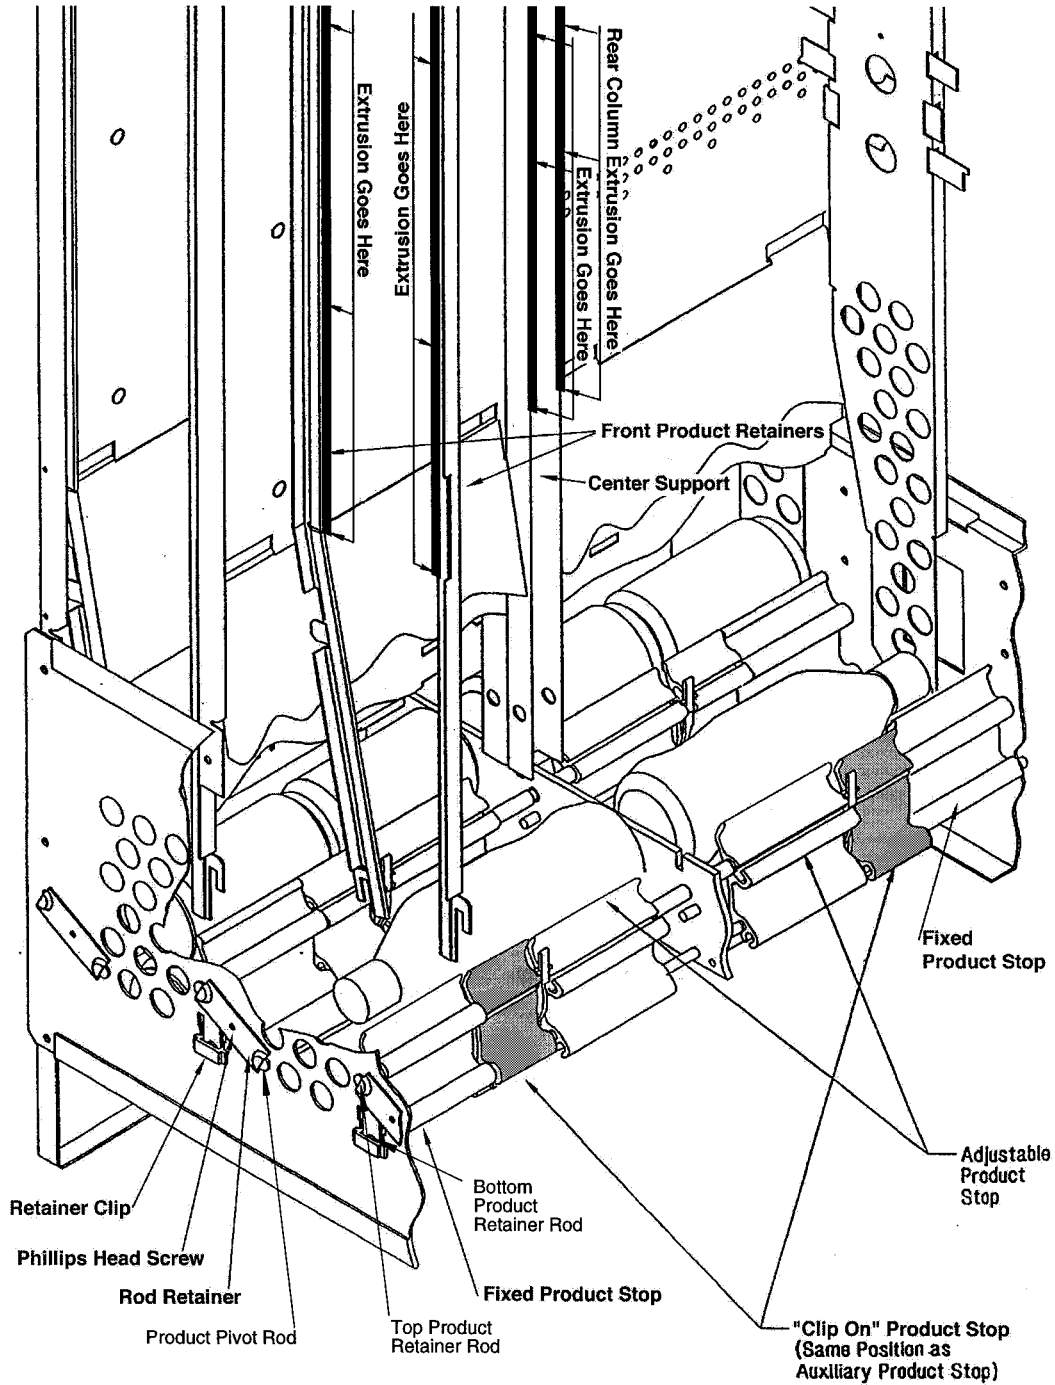

Figure 5
2. Loosen the Phillips head screw that fastens the rod retainer to the front of the base. Rotate the rod retainer to expose the head of the product pivot rod (See Figure 5).
1. Install the 2 extrusions for the rear column one on each side of the rear flanges of the "Center Support" channel. Start by locating one of the flanges, either right or left. These flanges with the extrusions attached will support the bottom of the bottle. Start by pressing the extrusion onto the top of the flange then continue pressing the remainder of the extrusion onto the flange (See Figure 5). Repeat this procedure for the other flange.
2. Install extrusions on the top portion of the "Front Product Retainers", both left and right (Shown in Figure 5). Press the one of the extrusions onto one of the two "Front Product Retainers" for your column. Make sure that the extrusion is aligned at the top edge of the "Front Product Retainer"
2. Lift the black rod retainer clip and remove the bottom product retainer rod (See Figure 5). Position the "Small Package Clip On Product Stop" between the "Fixed" and "Adjustable" product stops as shown in Figure 5, ensure that the top of the "Small Package Clip On Product Stop" (Figure 3) fits securely over the white spacer located on the "top product retainer rod".
2. Lift the black rod retainer clip and remove the "bottom product retainer rod" (See Figure 5).
3. Loosen the Phillips head screw that fastens the rod retainer to the front of the base. Rotate the rod retainer to expose the head of the "top product retainer rod" (See Figure 5).
6. Install the "Small Package Clip On Product Stop" between the "Fixed" and "Adjustable" product stops as shown in Figure 5, ensure that the top of the "Small Package Clip On Product Stop" fits securely over the white spacer (installed on the "top product retainer rod" in step #5).